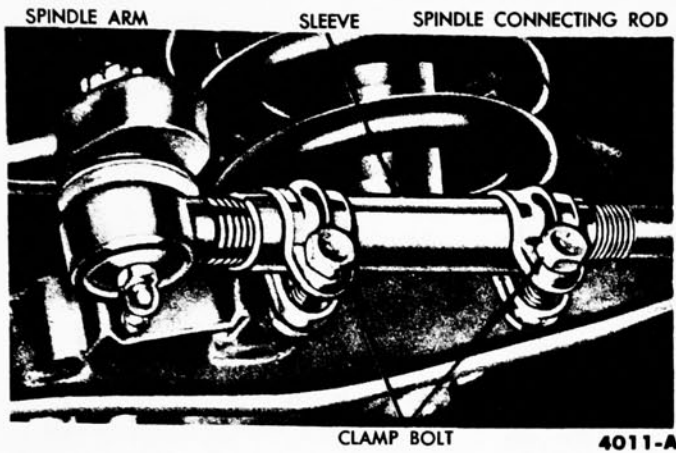

FIG. 4—Spindle Connecting Rod Sleeve
1. Loosen the two clamp bolts on each spindle connecting rod sleeve (Fig. 4).